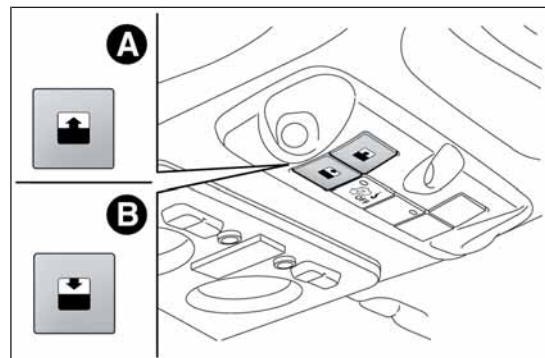

fig. 54
The sun roof can be operated only with the ignition key turned to MAR. The controls A and B fig. 54 on the trim next to the front courtesy light operate the sun roof opening/closing functions.
Pressing button A fig. 54 permits two opening modes for the front glass panel.
Pressing button B fig. 54 permits two closing modes for the front glass panel.
- ❑ press button B fig. 54 until the roof is completely closed. Release the button;